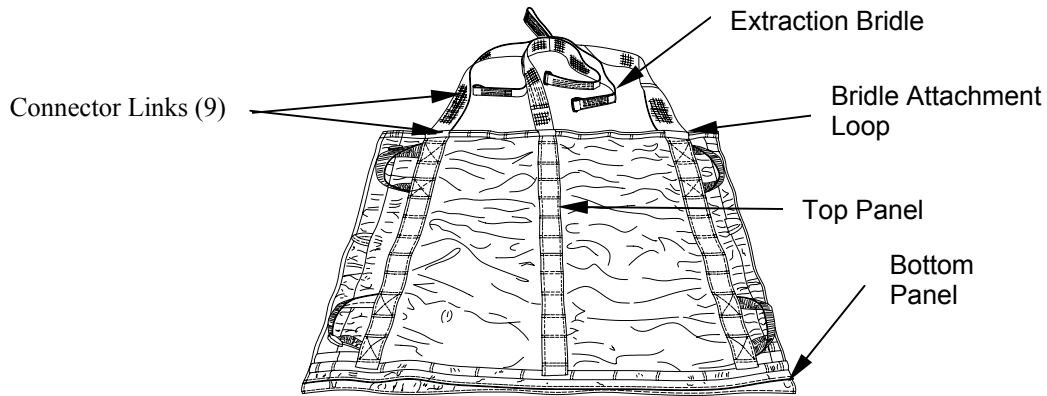

Figure 2. Extraction Bridle Attached to Two Extraction Line Panels.
- b. Using nine connector links, attach six to the double end webs of extraction bridle-to-bridle attachment loops located on upper end of each panel. Attach three connector links to parachute attaching webs of extraction bridle (figure 2).